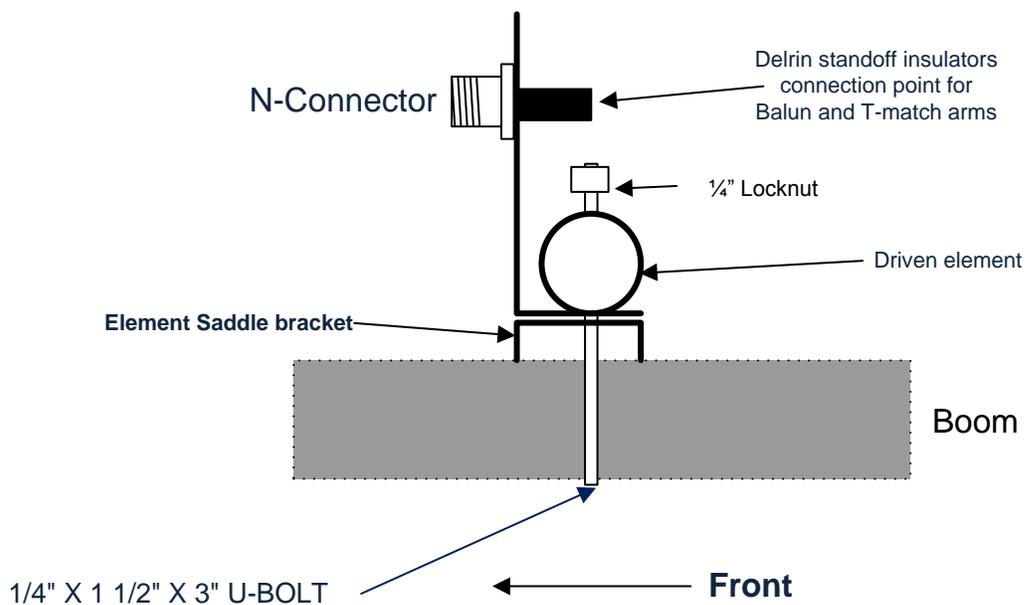
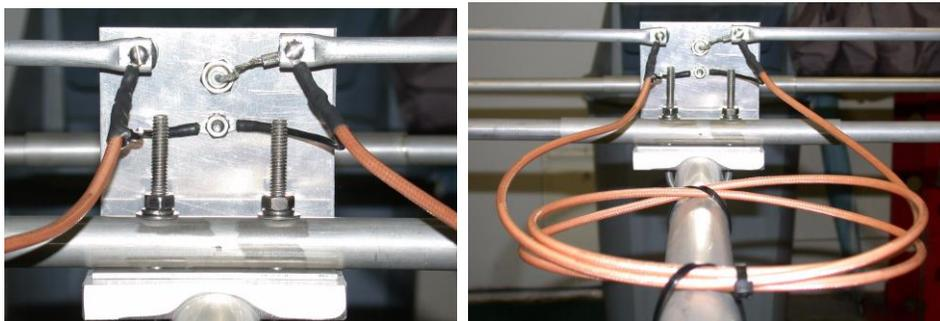

Figure 2
Figure 3
4. The Driven Element (DE) mounts the same way; however, the connector bracket sits between the element and the element to boom saddle (see Figure 2).
5. Similarly, assemble the Director (D) and attach it at the appropriate mark on the boom, making sure the element is perpendicular to the Reflector.
7. Attach the other T-arm in a similar fashion, but without the wire coming from the connector, and locate the shorting strap 37 1/8" from the center of the N connector. Connect both ground wires from both ends of the balun to the grounding screw just below the connector. Place a lock washer on the stud first, then both lugs, another lock washer and then the nut and finger-tighten. Refer to Figure 3 for details.
8. Securely attach the balun to the boom with the supplied cable ties as pictured in Figure 3.